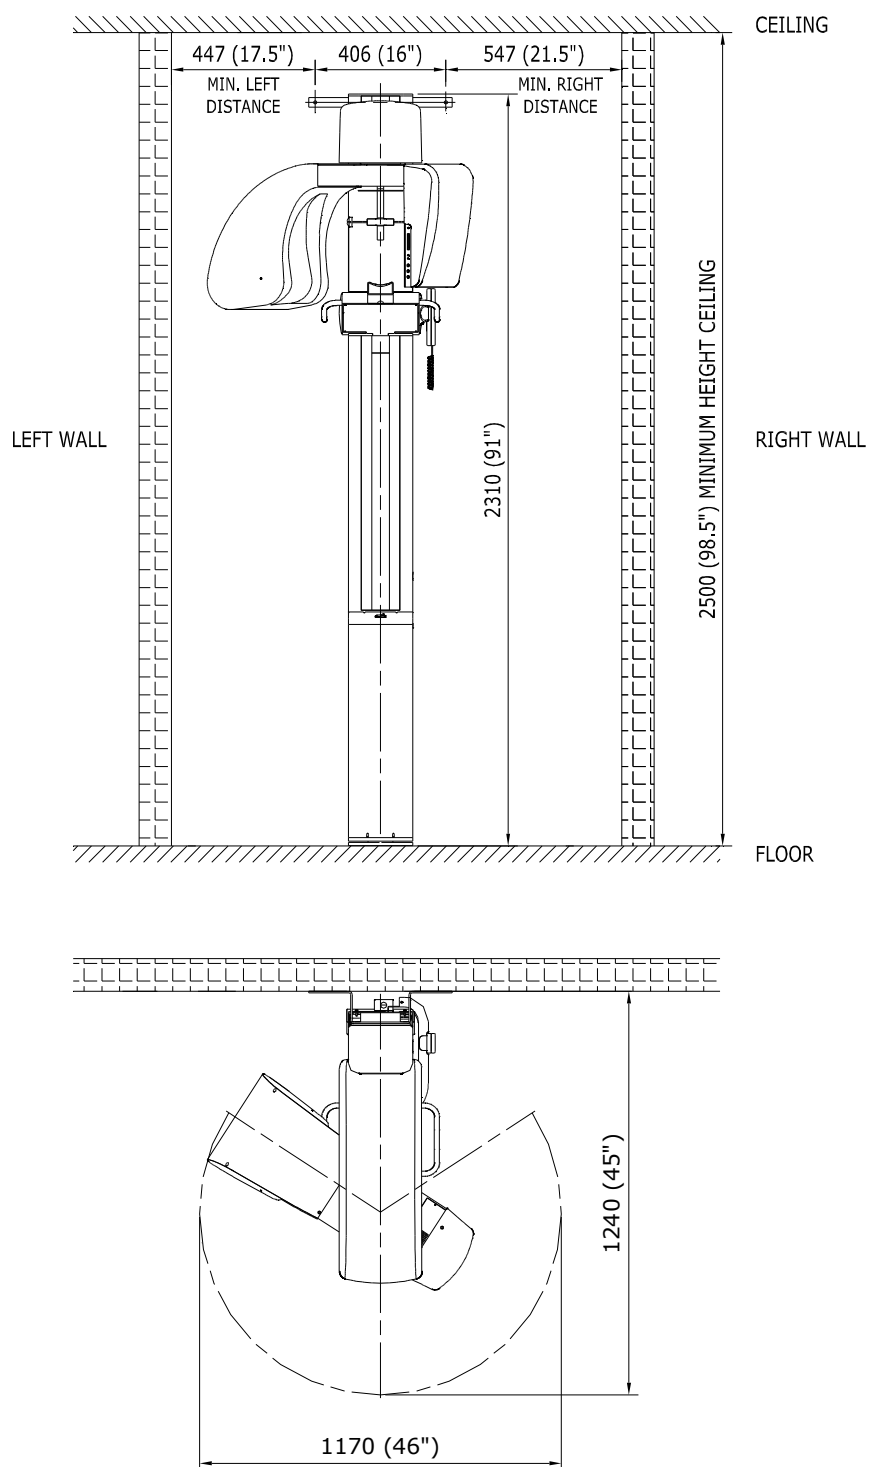

Figure 5-1
- a minimum room ceiling height of 8 ft (2.5 mt) and an area to accept I-MAX EASY with its different configuration as showed in Figure 5-1.